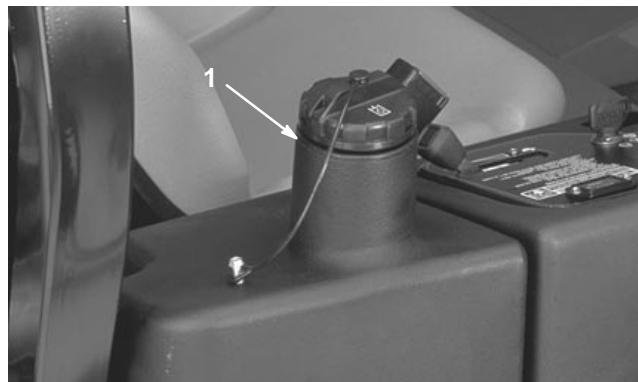

Figure 54
- Fill the reservoir (Fig. 54) with approximately 3.5 U.S. gallons (13.2 l) of hydraulic fluid; refer to Checking the Hydraulic System, page 17.